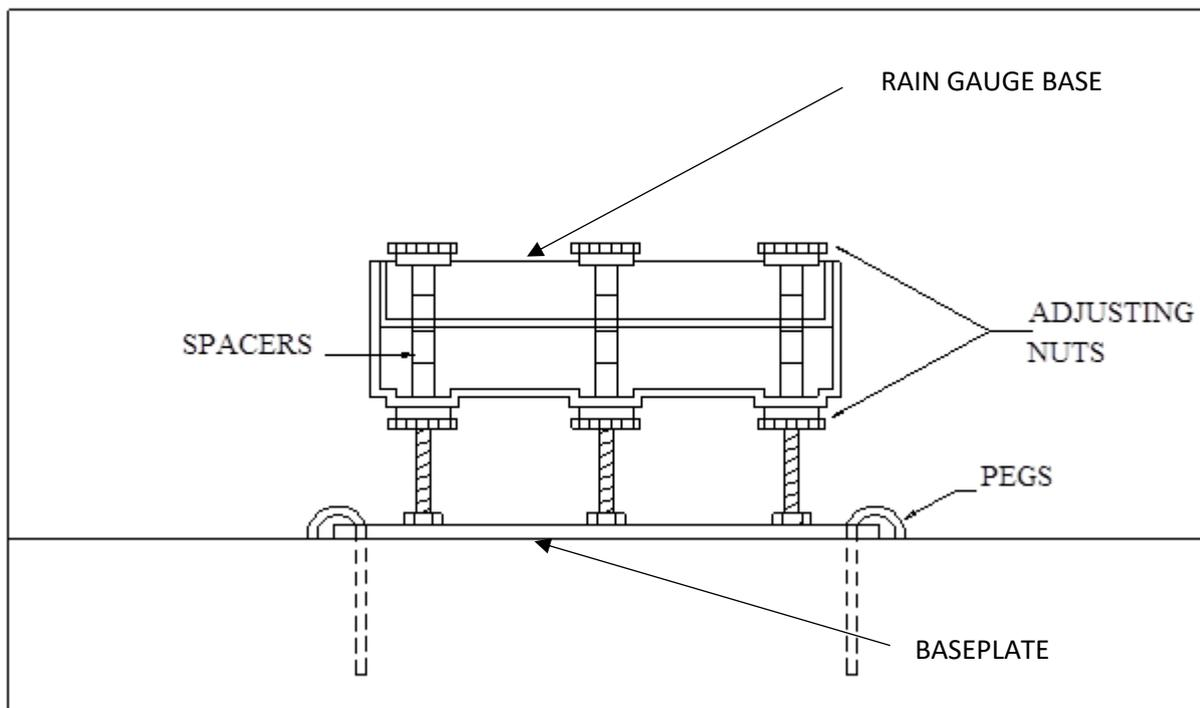

Figure 1 – Baseplate method of levelling the rain gauge
1. Assemble the rain gauge base and the baseplate as in Figure 1